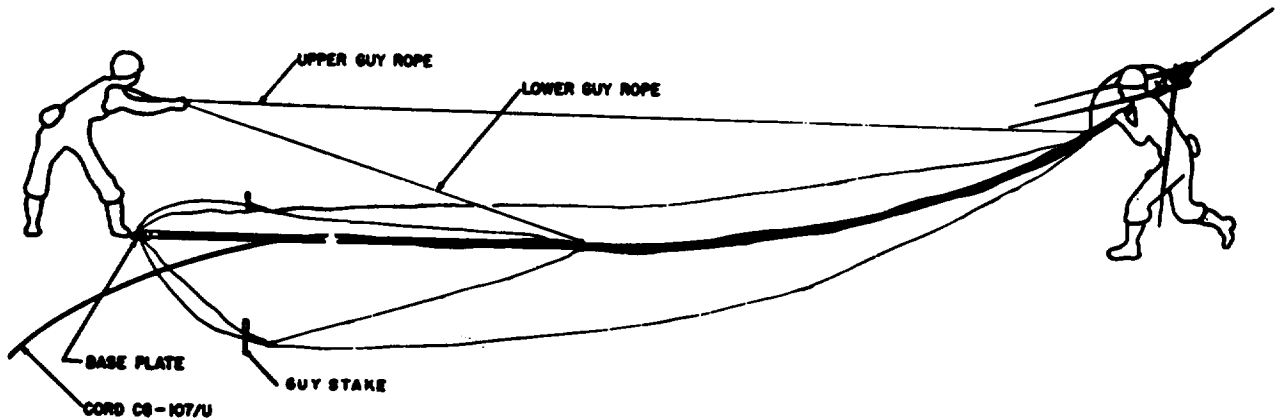

Figure 2-6. Erecting Antenna Equipment RC-292 with two men.
- (3) Place a second guy plate over the end of the eleventh section of the mast assembly, and add the final Mast Section AB-85/TRC-7 to the assembly.
- (4) Rotate the mast assembly about the AB-154/U until its free end is midway between two of the guy stakes (fig. 2-6).
f. To raise the mast, two men coordinate movements as follows: One man stands near the swivel stake and in line with the third guy stake. The second man stands at the top of the mast. The first man bows the top end of the mast by pulling the free guy ropes taut. At the same time, the second man, having raised the top end of the mast to shoulder height, walks toward the base plate, pushing the mast upward, while the first man walks backward towards the third guy stake, pulling the mast slowly and firmly erect (fig. 2-6).
g. When the mast is in the vertical position, adjust and tighten all the guy ropes. Secure each guy rope with the hitch as shown in figure 2-6.
To lower the antenna to change the number of mast sections in the antenna elements, loosen one set of guy ropes (upper and lower) and lower the antenna to the ground by letting it pivot about the AB-154/U. After the antenna elements have been changed, raise the antenna by pulling on the guy ropes (fig. 2-6 or 2-9) and resecure the antenna. Do not loosen more than two guy ropes.